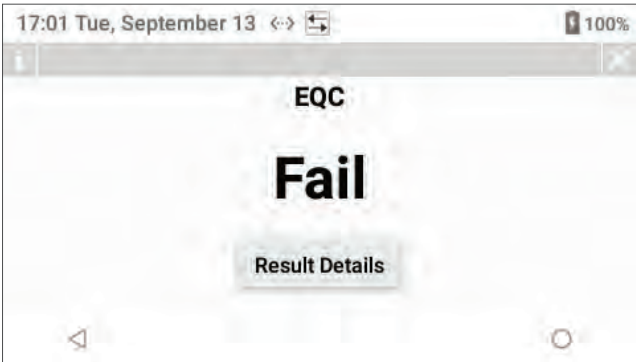

Figure 64: EQC Test Result – Fail
- **Fail** – If the test fails (Figure 64), run the EQC test again. If the test fails again, see “Troubleshooting” (page 73). If the test continues to fail, contact Technical Support.